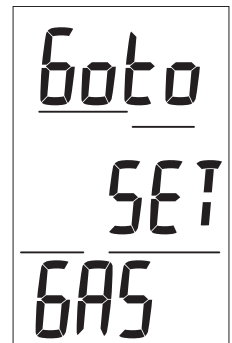

Fig. 15 - Set F LEAD-IN
**Set FO2 GAS LEAD-IN**, information includes (Fig. 15):